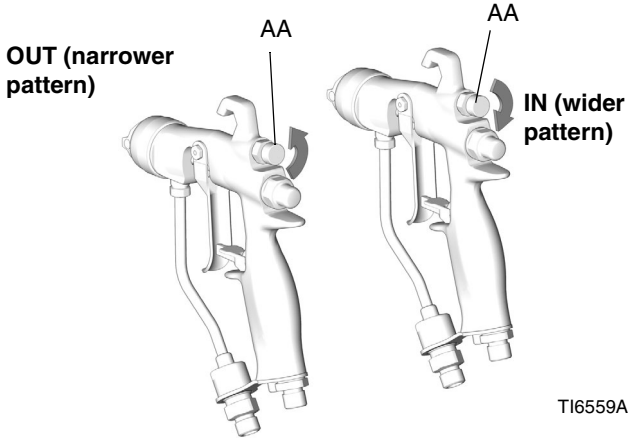

FIG. 7. Pattern Air Knob
- See FIG. 7. Close off pattern adjustment air by turning knob (AA) clockwise (in) all the way. This sets gun for its widest pattern.
- See FIG. 7. For narrower pattern, turn pattern adjustment valve knob (AA) counterclockwise (out). If pattern is still not narrow enough, increase air pressure to gun slightly or use different size tip.